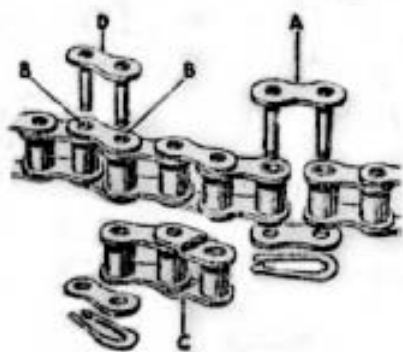

Fig. 44.
After a big mileage, the rear chain may have stretched so that no further adjustment is possible by the usual method (described on page 20). In this case it is possible to shorten the chain by one link or pitch, so increasing its useful life. First remove the single connecting spring link (A) securing the two ends of the chain (Fig. 44). If the chain terminates in
two ordinary links as in Fig. 44 (in which case the chain will be of an even number of pitches) extract the third and fourth rivets (B) from the end and replace the detached three pitches by a single